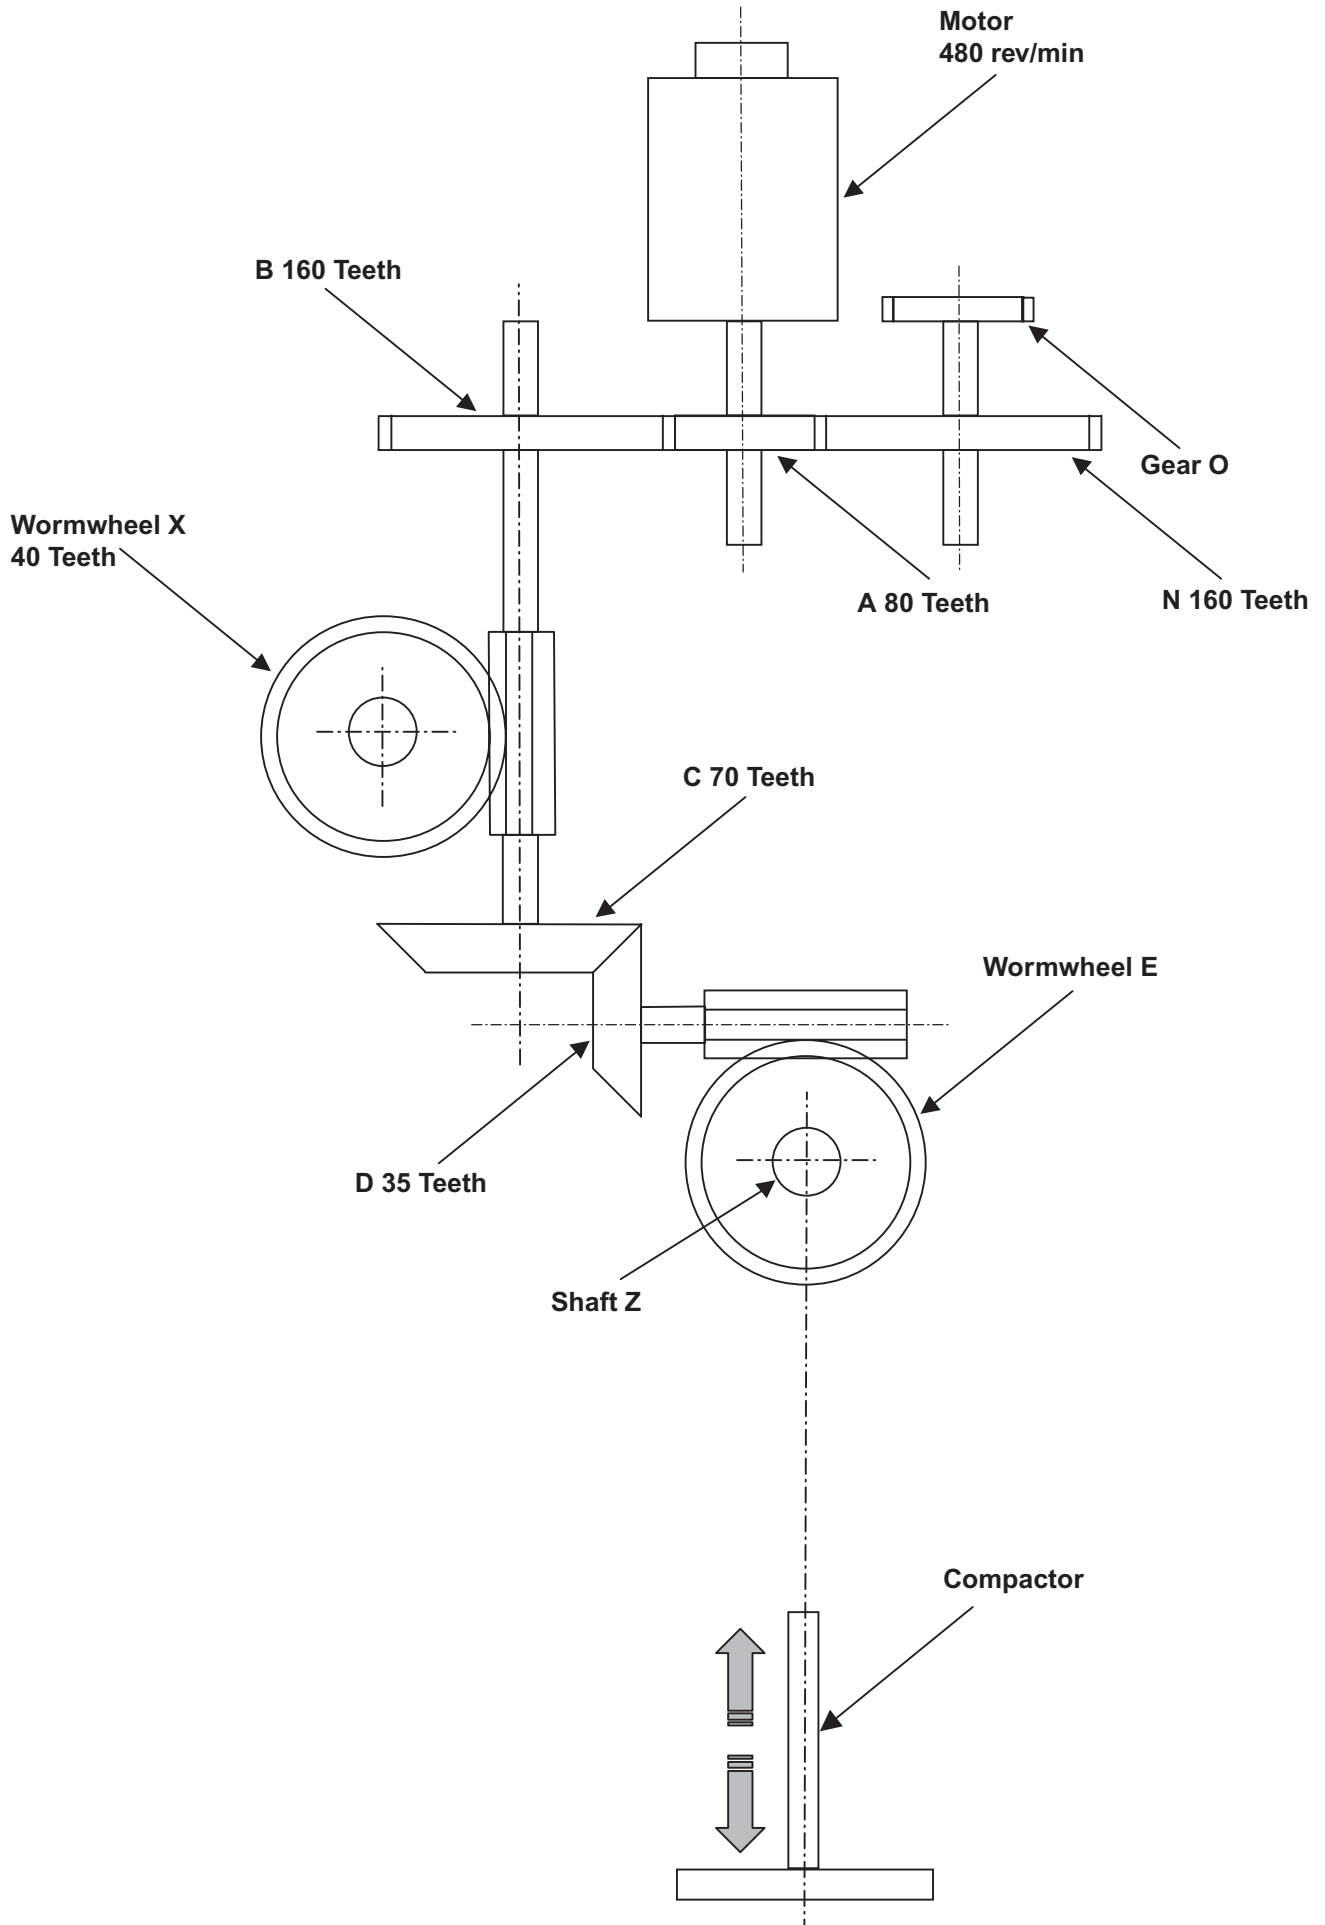

Fig. 11(b)
- (vi) Name each type of gear from gears **A** to **D** and describe if there is an increase or decrease in transmission speeds between them. Include in your explanation why there is a significant difference in transmission speeds between the worm and wormwheel arrangements in **Fig. 11(b)**. [2]